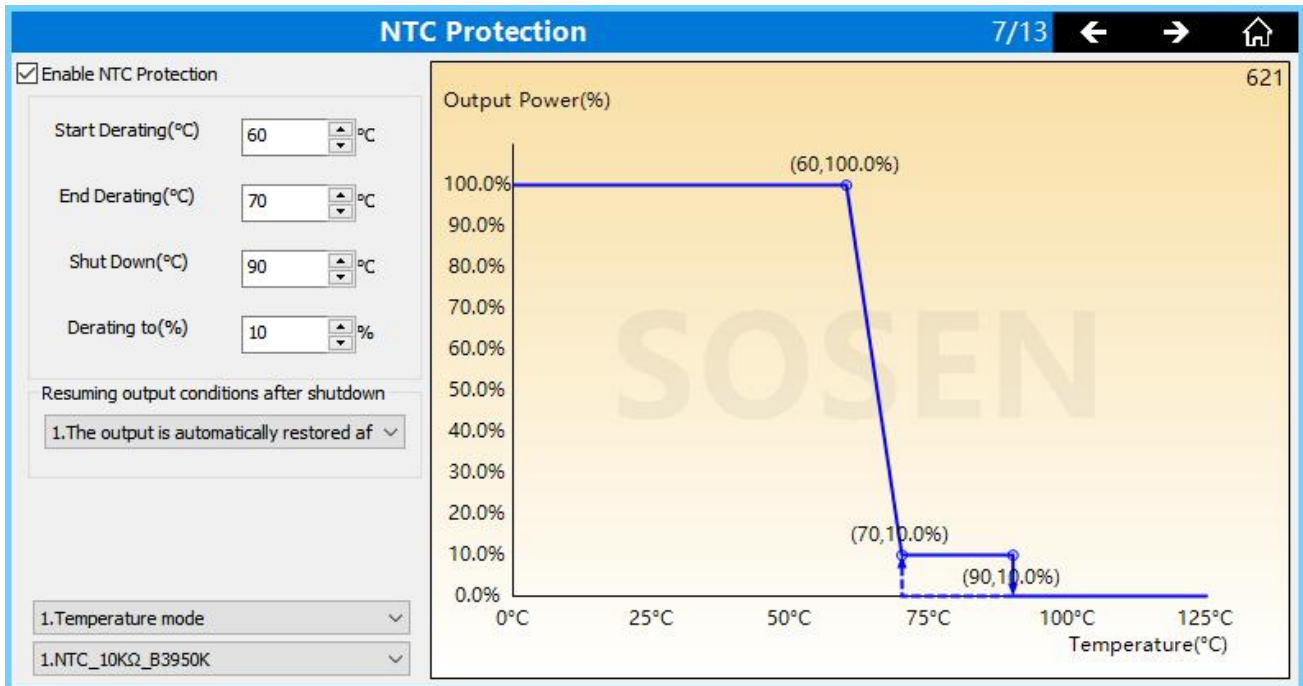

Figure 1
a.The NTC functions supported by the a.D4i model are shown in the functional interface shown in Figure 1.Models that support this feature include the 22PA-32F.Note: DALI2 models do not have NTC function.
b. Operation Logic:According to the parameter setting shown in Figure 1, as shown in the blue line, when the temperature is lower than 60°C, the output power is 100%; when the temperature is greater than 60°C and less than 70°C, the output power runs according to the slanting line between 60°C and 70°C, and the output power will be accompanied by this lowering and raising as the temperature increases and decreases; when the temperature is greater than 70°C, the output power will be lowered to 10%, and keep at 10%; when the temperature is greater than 90°C, the output power will be turned off. ; when the temperature is greater than 90°C, the output will be turned off. Alternatively, setting the shutdown temperature to less than or equal to the temperature at which the end derating occurs will turn off the shutdown function and neither shutdown.